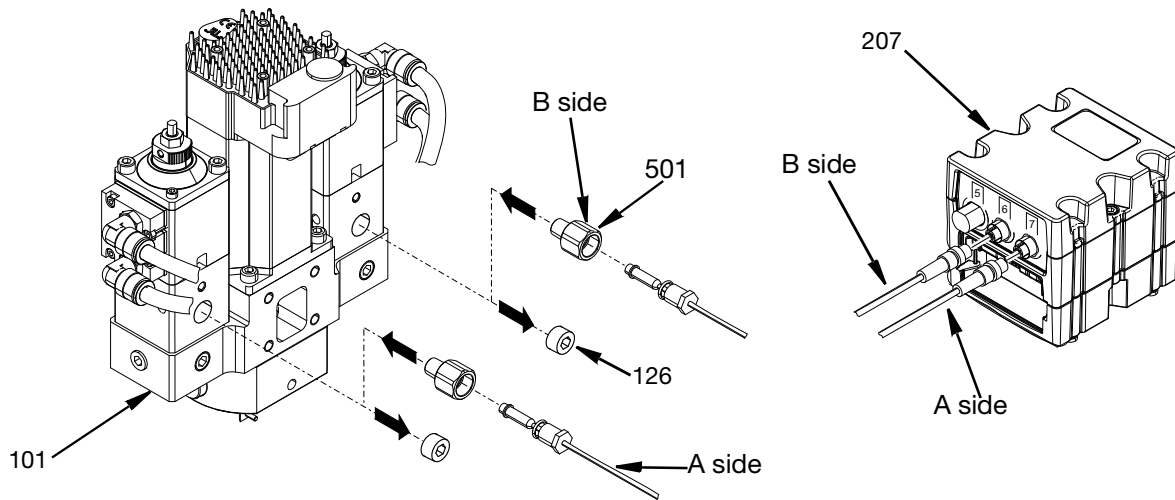

FIG. 55
2. Remove 2 plugs (102) from base housing (101).
3. Install (501) into each open port.
5. Connect A side pressure transducer into port 7 on the GCA cube module (207).
6. Connect B side pressure transducer into port 6 on the GCA cube module (207). See FIG. 55.